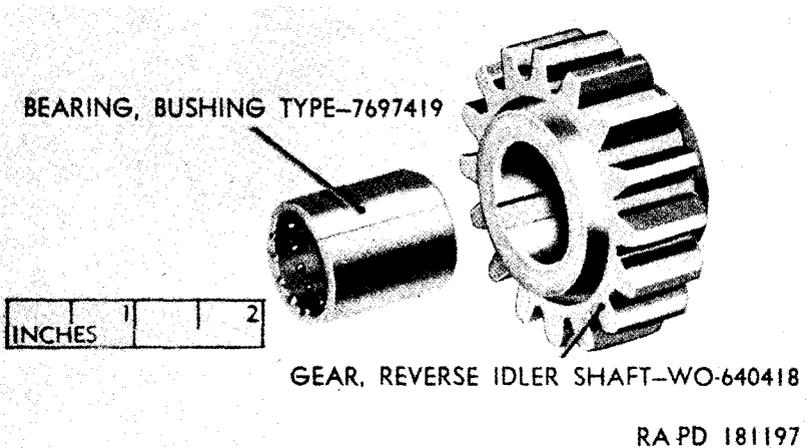

Figure 61. Transmission reverse idler shaft gear—disassembled view.
a. Disassembly. The reverse idler shaft gear (fig. 61) requires no disassembly except the removal of the bushing type bearing. Do not remove the bearing unless inspection (*b* below) reveals it to be unserviceable. To remove the bearing, press or drive bearing out of bore of gear with a suitable removing tool.
- (1) *Inspection.* Inspect teeth of reverse idler shaft gear (fig. 61) for chips, pits, scores, or breaks. Replace gear if teeth are excessively damaged or worn. Measure inside diameter of
- (2) *Repair.* Slight faults, such as nicks, burs or scratches, on reverse idler shaft and shaft gear may be removed with a hone. Replace gear or shaft if these faults cannot be easily removed.
c. Assembly. To install new reverse idler shaft gear bushing type bearing (fig. 61), place new bearing in bore of reverse idler shaft gear and press or drive into position. Ream bearing to size specified in repair and rebuild standards (par. 270d).